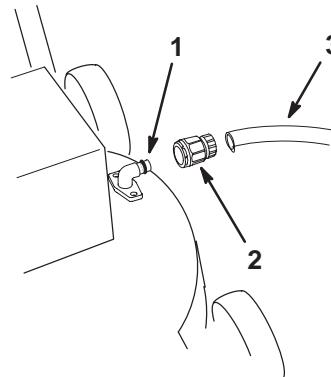

Figure 16
3. Attach the coupling to the washout fitting (Fig. 16).